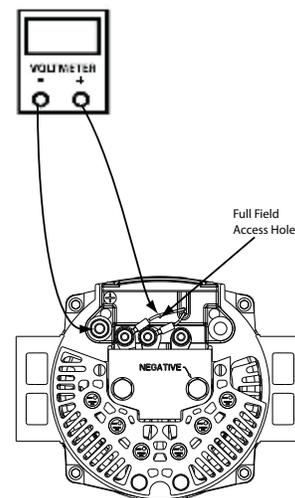

Fig 1
Step 1: Insert 1/16” drill bit or mechanics wire into alternators full field access hole. Insert straight into hole until it stops about 1/4” (Do not Force). Hold firmly in place to ensure appropriate contact. See Fig 1.